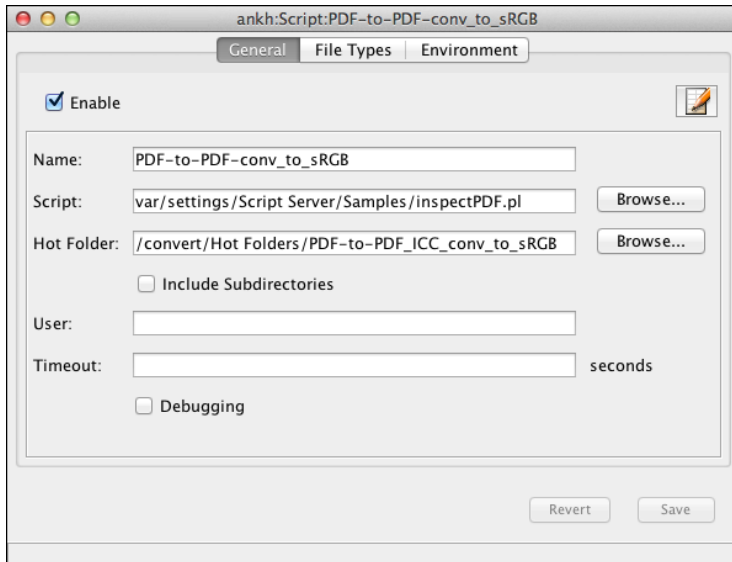

Fig. 12.2: General tab
- Next, click on `Browse . . .` to select the hot folder that you just created (see Fig. 12.2).